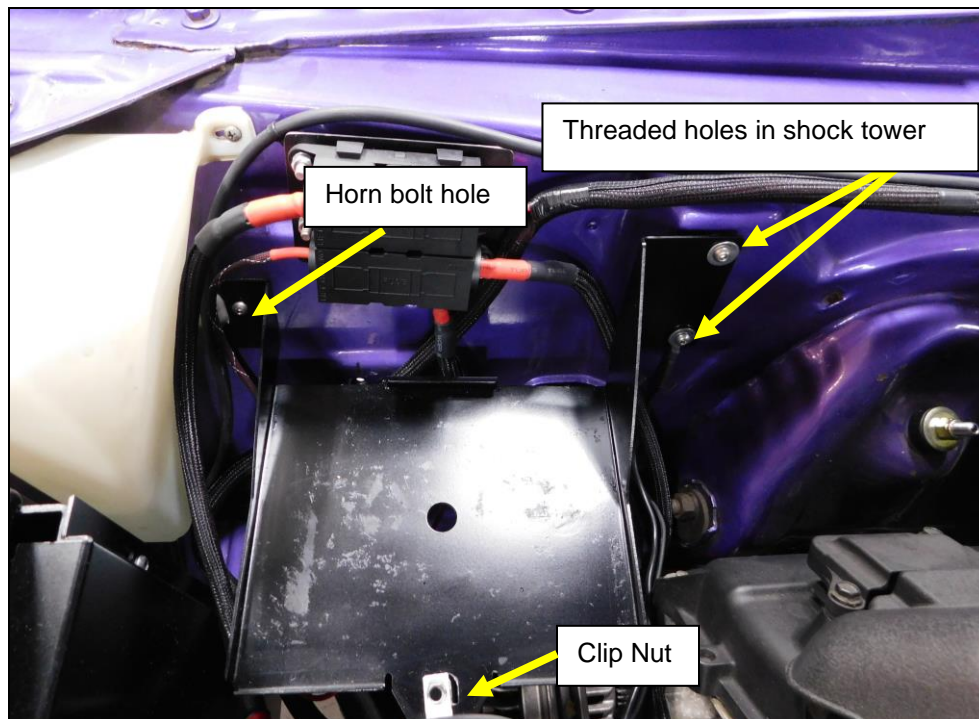

Figure 1
3. Install BHS586 Battery tray using the (x2) supplied 1/4" flange bolts into the existing threaded bolt holes on the shock tower and one horn mounting hole for the top flanges of the battery tray (**Figure 1**).